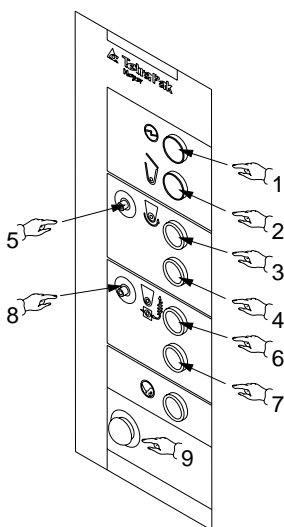
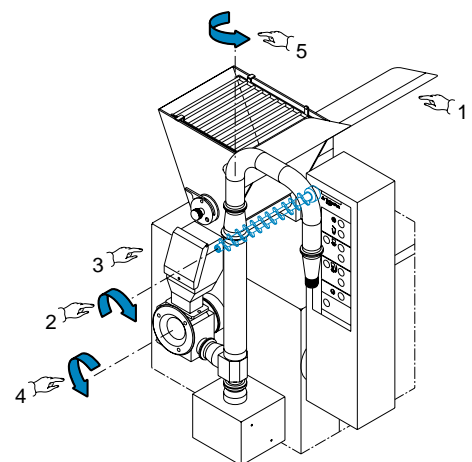

Fig. 4.5
Fig. 4.7
- a. Check that the emergency stop button is released (*Pos.9 Fig.4.5*).
Press luminous button (*Pos.3 Fig.4.5*) to start the motor. Lift the main hopper lid (*Pos.1, Fig.4.7*) and check that the screw feeder turns clockwise (*Pos.2, Fig.4.7*). Press the luminous button (*Pos.4 Fig.4.5*) to stop the motor.
Press the luminous button (*Pos.6 Fig.4.5*)
to start the motors. Lift the secondary hopper lid (*Pos.3, Fig.4.7*) and check that the vanes turn anticlockwise (*Pos.4, Fig.4.7*). Check, by viewing from above, that the in-line mixer turns anticlockwise (*Pos.5, Fig.4.7*). To carry out this check, disconnect the 2" to 1 1/2" reducer. Be particularly careful not to crush parts of your body during rotation of the mixer blades. Press the luminous button (*Pos.7 Fig.4.5*) to stop the motor.
With the motors running, check that the emergency stop button (*Pos.9 Fig.4.5*) works correctly. In the case of a malfunction, contact one of our Service Centres immediately.